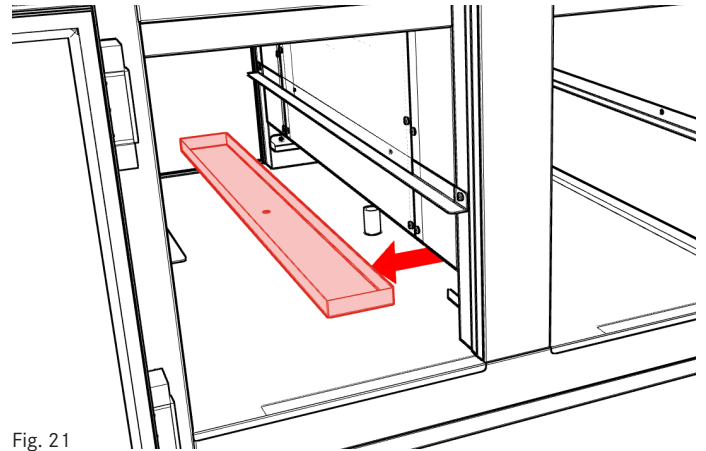

Fig. 21
1. Lift and remove condensate pan from angle brackets at bottom of evaporator module (Fig. 21).